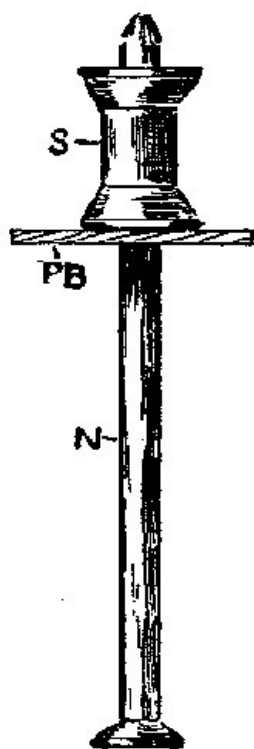

Fig. 63.
**119. Washers** or coil ends are used on the bolt magnets so that considerable wire can be wound on closely and evenly. These are made out of thick pasteboard, which cuts smoother if it has been soaked in melted paraffine. Unless you know how, you will find it a hard job to make the hole in the exact center of the washer. The method of easily making washers is illustrated in Fig. 63.